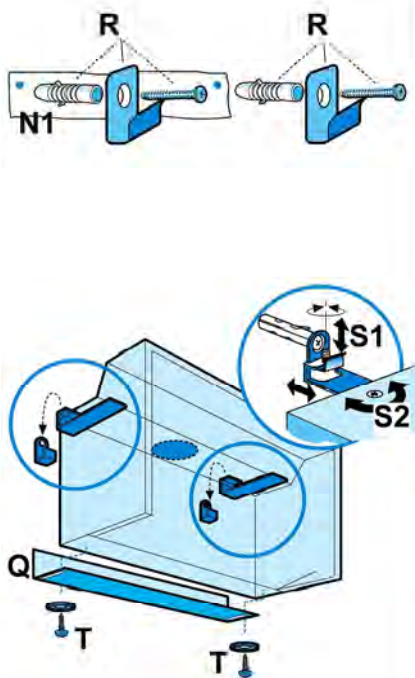

Fig. 7
Note: the position of the brackets can be adjusted during installation, suitably loosening and retightening the screws that fix them to the hood. (Fig. 7 - S1-S2).
- Make the holes as indicated. Fix 2 hooks (*) **R** to the wall with screws and dowels. Fig. 7
- e. Hang the hood onto the hooks (*) and adjust the position of the hood with headless screws **S1** and adjusting the position of the hooking brackets with screws **S2**. **Fig. 7**
- g. Mount the lower corner **Q** (*) to the hood with two screws and plastic washers **T**. They will serve to cover possible spaces between the rear of the hood and the wall. **Fig. 7**